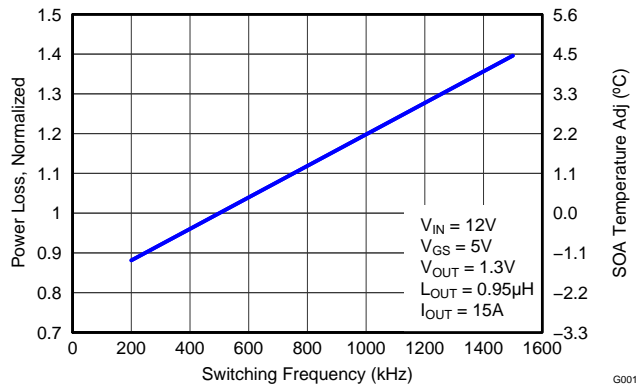

Figure 5. Normalized Power Loss vs Switching Frequency
- Normalized Power Loss for switching frequency ≈ 1.11(Figure 5)
- SOA adjustment for switching frequency ≈ 1.03°C (Figure 5)
- The placement of the input capacitors relative to VIN and PGND pins of CSD87381P device should have the highest priority during the component placement routine. It is critical to minimize these node lengths. As such, ceramic input capacitors need to be placed as close as possible to the VIN and PGND pins (see Figure 5). The example in Figure 5 uses 1x10nF 0402 25V and 4 x 10 $\mu$ F 1206 25V ceramic capacitors (TDK Part # C3216X5R1C106KT or equivalent). Notice there are ceramic capacitors on both sides of the board with an appropriate amount of vias interconnecting both layers. In terms of priority of placement next to the Power Stage C21, C5, C8, C19, and C18 should follow in order.